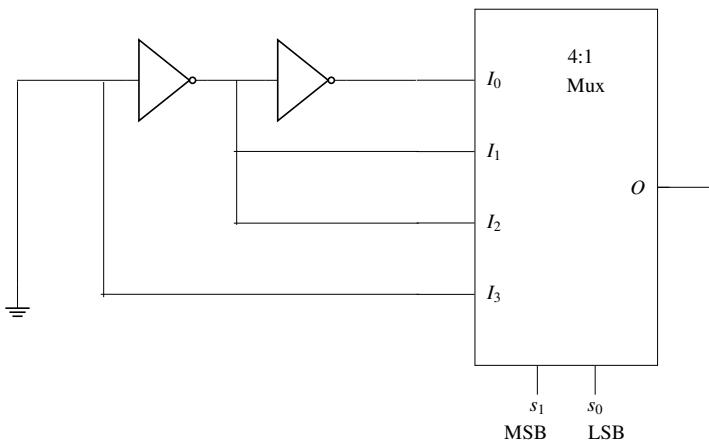

Fig. 3.24
40. The Boolean operation performed by the following circuit in Fig. 3.24 at the output  $O$  is \_\_\_\_\_.